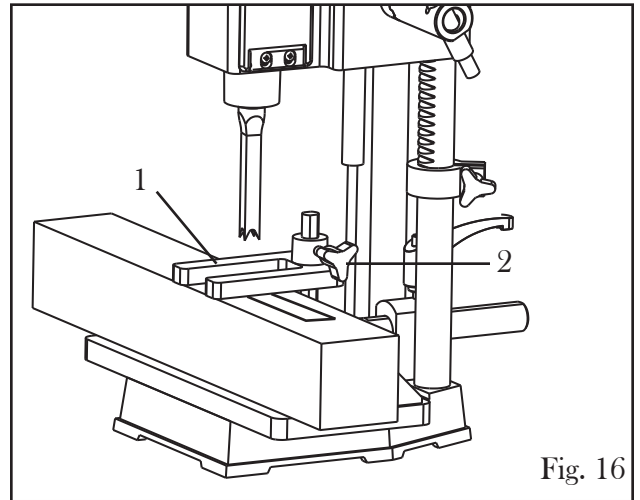

Fig. 16
3. Install the hold-down clamp (Fig. 16 - 1) to prevent the workpiece from lifting off the table; make sure you can still slide the workpiece below the hold-down clamp. Tighten the hold-down knob (Fig. 16 - 2) to lock the hold-down clamp in place.